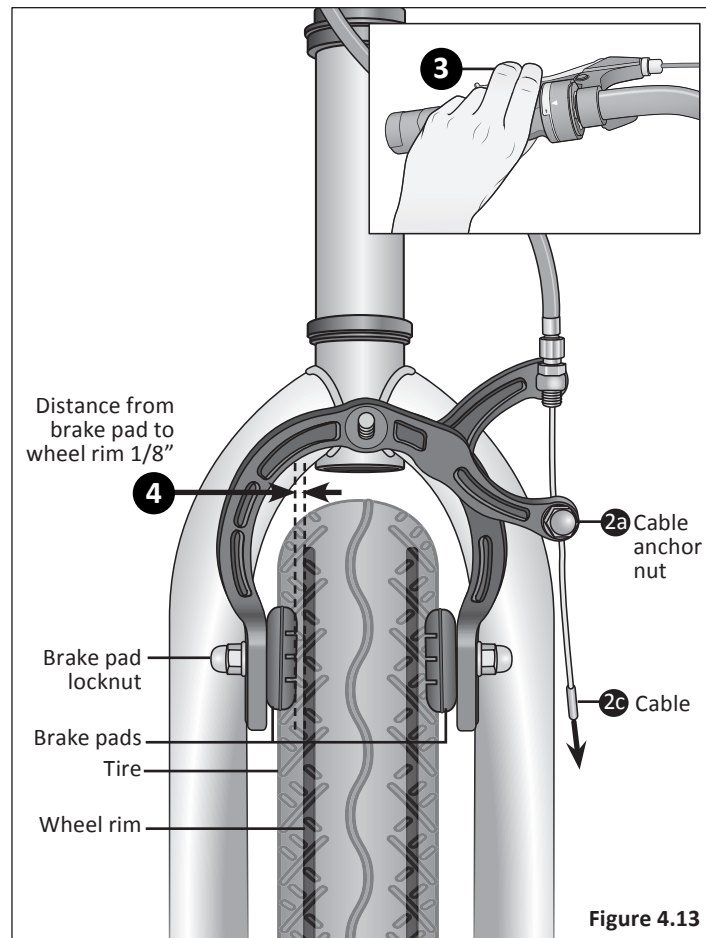

Figure 4.13
- 2 If the gap between the brake pad and wheel is uneven, adjust the cable tension. **Figure 4.13**